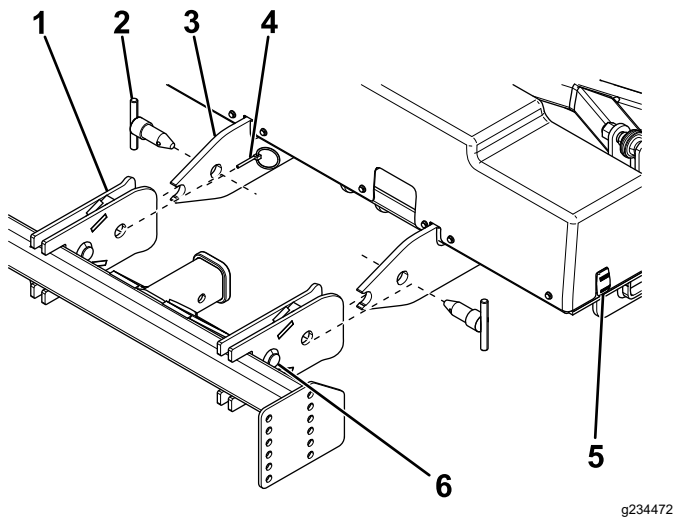

Figure 25
4. Use the coupler switch to raise or lower the plow to the desired height, then slowly drive backward until the attachment arms contact the undercarriage pin (Figure 25).
5. Slide the attachment pins through the holes in the attachment arms and undercarriage and secure them with a linchpin (Figure 25).